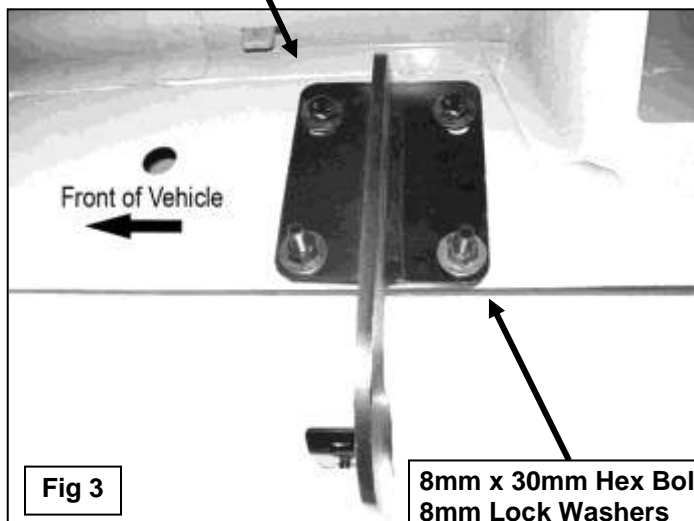

Fig 3
- Partially attach the passenger side front Mounting Bracket to the Clip Nuts using the included (2) 8mm x 30mm Hex Bolts, (2) 8mm Lock Washers and (2) 8mm Flat Washers, **(Figure 3)**. **NOTE:** Cradles on the Mounting Brackets should face the front of the vehicle.
- Bolt the (2) bottom holes in the Mounting Bracket to the (2) holes in the pinch weld using the included (2) 8mm x 30mm Hex Bolts, (2) 8mm Lock Washers, (4) 8mm Flat Washers and (2) 8mm Hex Nuts, **(Figure 3)**. Do not tighten hardware at this time.
- Carefully unwrap and position the Sidebar onto the (2) Mounting Brackets. Bolt the Sidebar to the Brackets with (4) 8mm x 25mm Hex Bolts, (4) 8mm Lock Washers, and (4) 8mm Flat Washers, **(Figures 3 & 4)**. Do not tighten at this time.